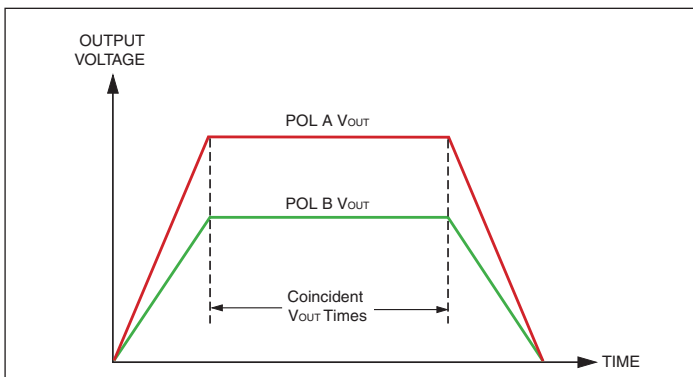
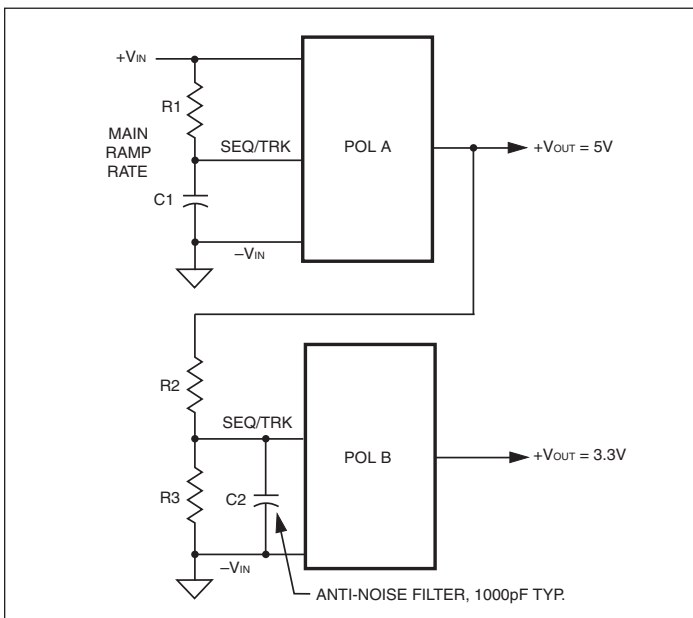

Figure 7. Proportional or Ratiometric Phasing (Identical V_{OUT} Time)
Figure 12. Proportional Phasing
Figure 7 shows two POLs with different slew rates in order to reach differing final voltages at about the same time.
Figure 12 shows two POLs with different slew rates in order to reach differing final voltages at about the same time.
Figure 12 shows both a RC ramp on Master POL A and a proportional tracking divider (R2 and R3) on POL B. We have also added an optional very small noise filter cap at C2. Figure 12's circuit corresponds roughly to Figure 7's timing for power up.
- [7] The Sequence is a sensitive input into the feedback control loop of the converter. Avoid noise and long leads on this input. Keep all wiring very short. Use shielding if necessary. Consider adding a small parallel ceramic capacitor across the Seq/Trk input (see Figure 12) to block any external high frequency noise.